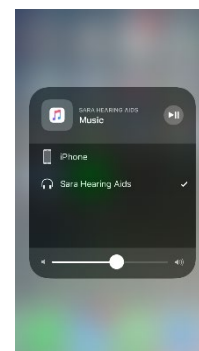

Figure 49.
2. Press the  icon in the upper right corner of the audio card (see orange box) to select the preferred audio source (Figure 49).